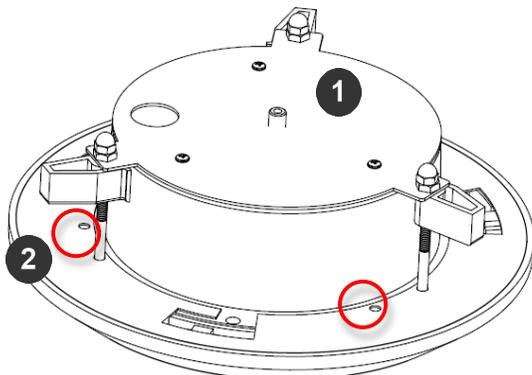

Figure 5: Attach Flange Plate to in-ceiling mount with 3 set screws
- Attach the Flange Plate to the in-ceiling mount with the 3 set screws as shown in Figure 5.